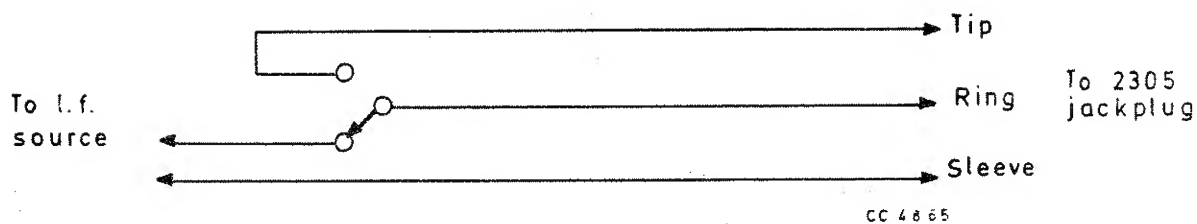

Fig. 1 External connections to enable the introduction of l.f. signals into 2305
2. Practical details. A jack plug is supplied with the instrument and a suggested method of connection is shown in Fig. 1. If frequent reversion to standard operation is required, as would be the case if l.f. signal measurements formed part of an automatically controlled sequence, the jack plug may be left inserted and the changeover effected by relay contacts as shown. Alternatively, if only occasional use is likely, the switch contacts and the tip wiring can be omitted and the jack inserted manually as required. Any wiring left permanently connected to the 2305 signal path must introduce as little stray capacitance as possible as the l.f. bandwidth may otherwise be reduced.